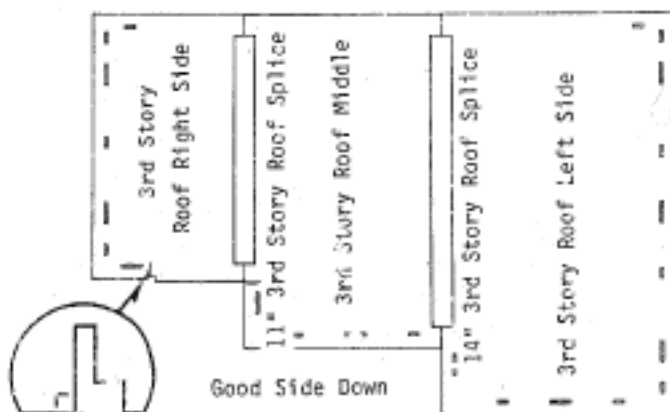

Figure 35
2. With the good side down, splice roofs together as in Figure 35. Cut 1/8"x1/8" notch as indicated.